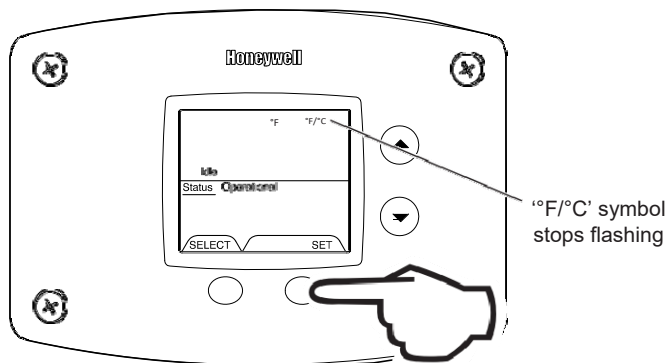

Fig. 69
4. Press 'Set' button to confirm °F or °C format. °F/°C will stop flashing (Fig. 69).